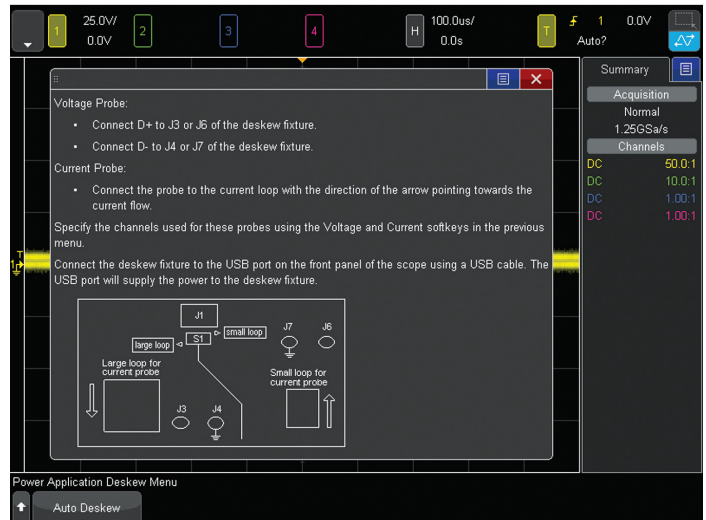

Figure 6. Deskew connections diagram.
5. Set the S1 switch on the deskew fixture to the "Small Loop" setting as shown in the on-screen diagram in Figure 6. Select Setup Diagram to view.